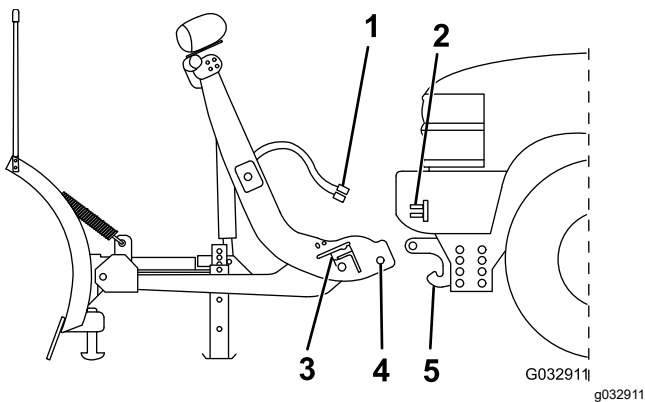

Figure 17
2. Line up the vehicle with the snowplow and slowly drive forward until the lower pin contacts the push-beam pin receiver (Figure 17).
4. Remove the electrical-plug dust-covers and connect the plow wire harness to the vehicle wire harness (Figure 17).